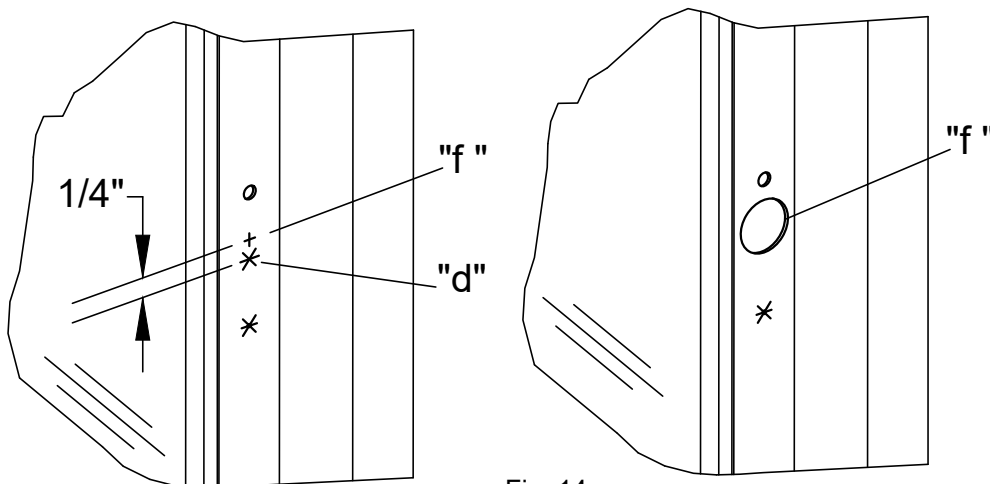

Fig. 14
8. Make a new mark and center punch 1/4" higher than the cam center "d" (Fig 14). This will be the mark for the 1-3/4" outside cylinder hole "f". Using a 1-3/4" hole saw, drill only through **OUTSIDE** door face at "f".